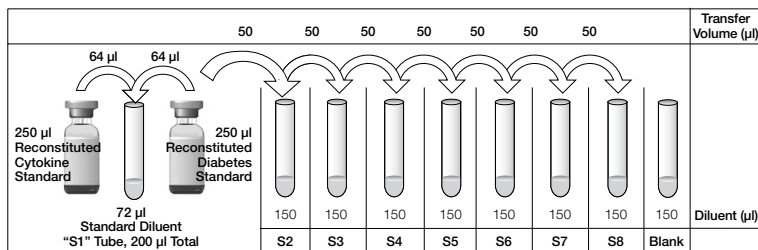

Fig. 5. S1 mixture and fourfold dilution series of cytokine and diabetes standards for detection at low PMT. Produces a broad range cytokine standard curve.
- For low PMT/broad range cytokine standard curve, add **64 μl** of each standard to the S1 tube, total volume 200 μl (Figure 5). **Vortex for 5 sec.**
- Continue with 1:4 (fourfold) serial dilutions from tube S2 to S8 as shown in Figure 5, vortexing after each volume transfer.